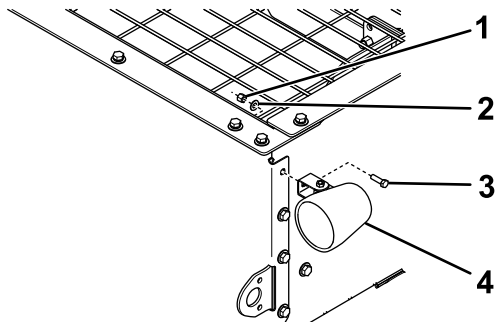

**Figure 7**
19. Remove and discard the top fasteners on the back end of the hopper sides as shown in Figure 7.